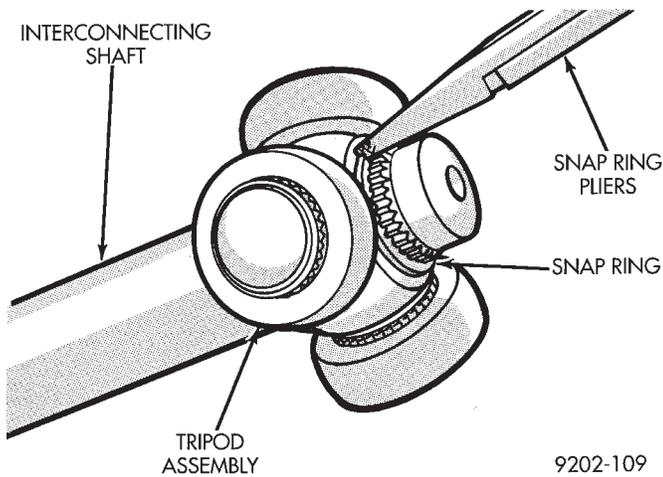

Fig. 10 Removing Outer Tripod Retaining Snap Ring (G.K.N.)
(1) Expand and remove the outer tripod assembly to interconnecting shaft, retaining snap ring (Fig. 10).